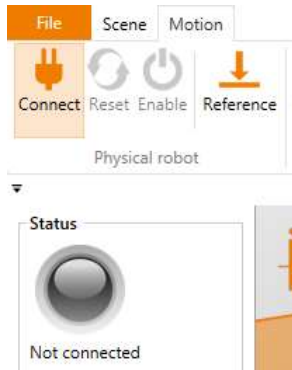

Figure 7.3: Icons for connecting to the hardware, resetting errors and enabling the motors; referencing icon; and "Status" indicator.
The real Robot can be controlled like the simulated one, only the hardware has to be connected first by clicking "Connect", "Reset " and "Enable" icons in the "Physical robot" ribbon group in the "Motion" tab (see Figure 7.3). After that the robot needs to be referenced.
2. Press the "Connect", "Reset" and "Enable" buttons (Figure 7.3).
4. Click on "Reference" icon (Figure 7.3) in the "Physical robot" ribbon group in the "Motion" tab (or "Reference robot" via "File" tab) to open the referencing window.